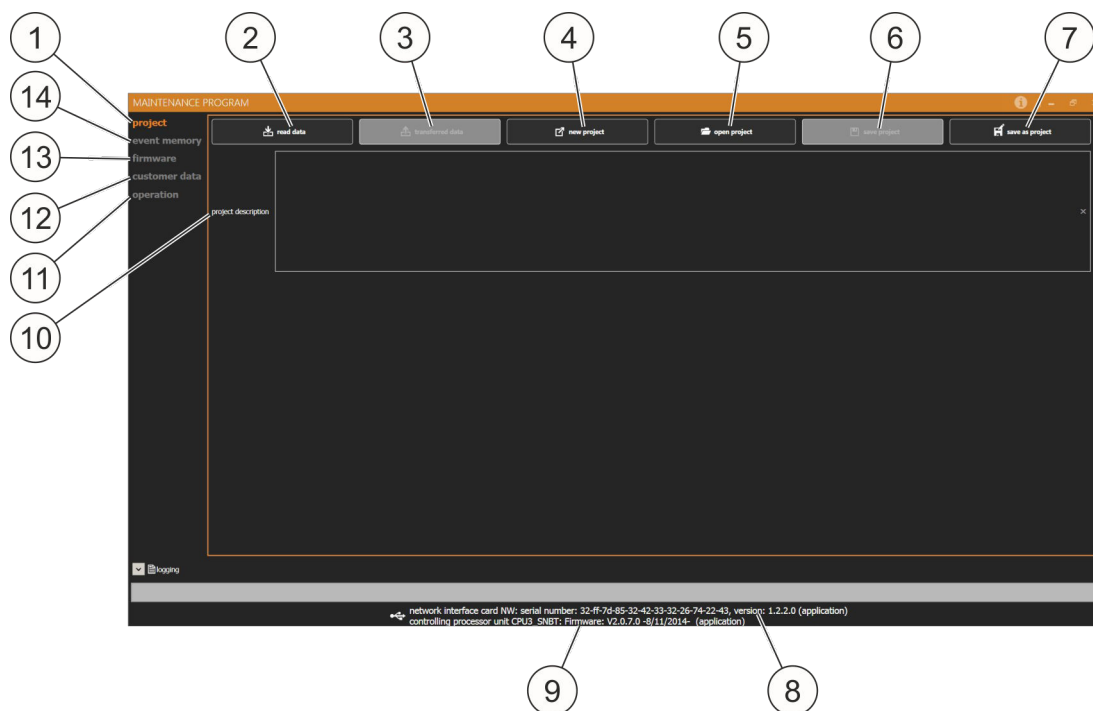

Fig. 41: Maintenance program homepage
- Project (Fig. 41/1) ↪ *Chapter 9.3 „Project” on page 56*
- Import data (Fig. 41/2) (gray background, if no system is connected)
- Transfer data (Fig. 41/3) (gray background, if no data has been imported yet)
- New project (Fig. 41/4)
- Open project (Fig. 41/5)
- Save project (Fig. 41/6) (gray background, if no project was opened previously)
- Save project as (Fig. 41/7)
- Event memory (Fig. 41/14) ↪ *Chapter 9.4 „Event memory” on page 56*
- Firmware (Fig. 41/13) ↪ *Chapter 9.5 „Firmware” on page 57*
- Customer data (Fig. 41/12) ↪ *Chapter 9.6 „Customer data” on page 57*
- Operation (Fig. 41/11) ↪ *Chapter 9.7 „Operation” on page 59*
- Network Interface Card serial number, Network Interface Card version number (Fig. 41/8)
- Firmware version (Fig. 41/9)
- The project can be described in the project description (Fig. 41/10).